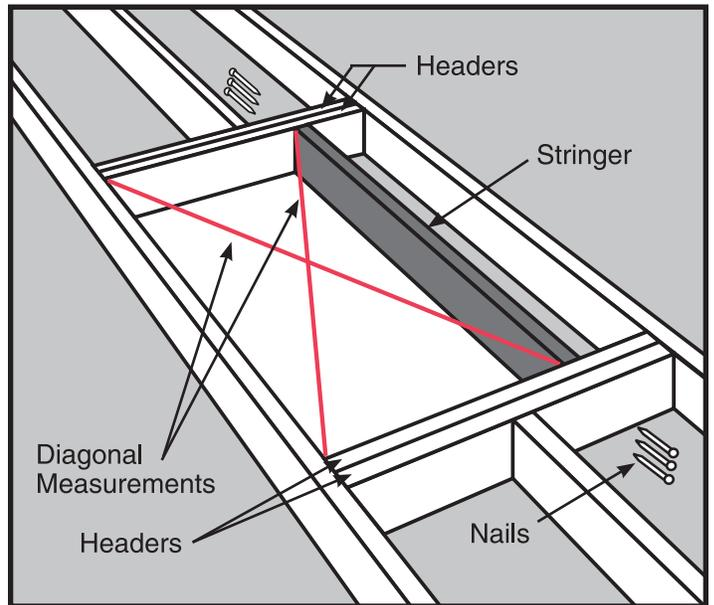

Figure 18
- STEP 4.** Position the stringer(s) along the unframed side(s) of your location (See Figure 18). Check that the inside dimensions of the frame are 22-1/2” x 54” (99210-001).
- STEP 5.** To attach the stringer(s) to the headers, use nails that are long enough to go through both headers and into the stringer at least one inch. Square the stringer(s) to the headers at one end and drive (3) 16d nails through the headers and into the stringer. Check for squareness, then nail the other end. Check the rough opening for squareness by measuring across the diagonals. **The two measurements should be within 1/8” to be considered square** (See Figure 18).